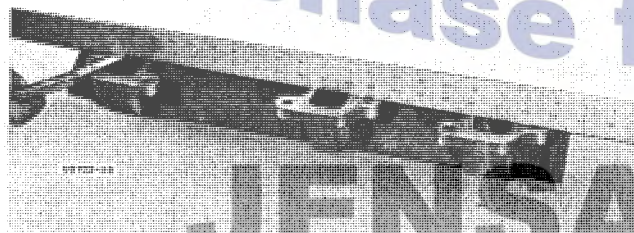

Figure 8 - Checking Manifold for Warpage with Straightedge and Feeler Gauge
2. Use straightedge and feeler gauge in manner typically illustrated in Fig. 8 to check alignment of flange surfaces. If misalignment is slight, a surface grinder may be used to face off surface to same plane.